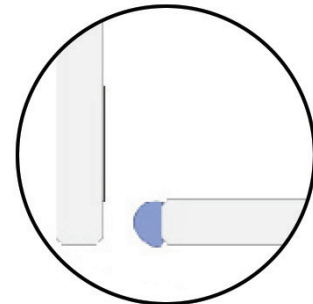

FIG 20.
- Run a continuous bead of silicon down entire length of 10mm face of installed wall to glass panel and across floor channel to the width of the glass to glass panel (**FIG 20**).